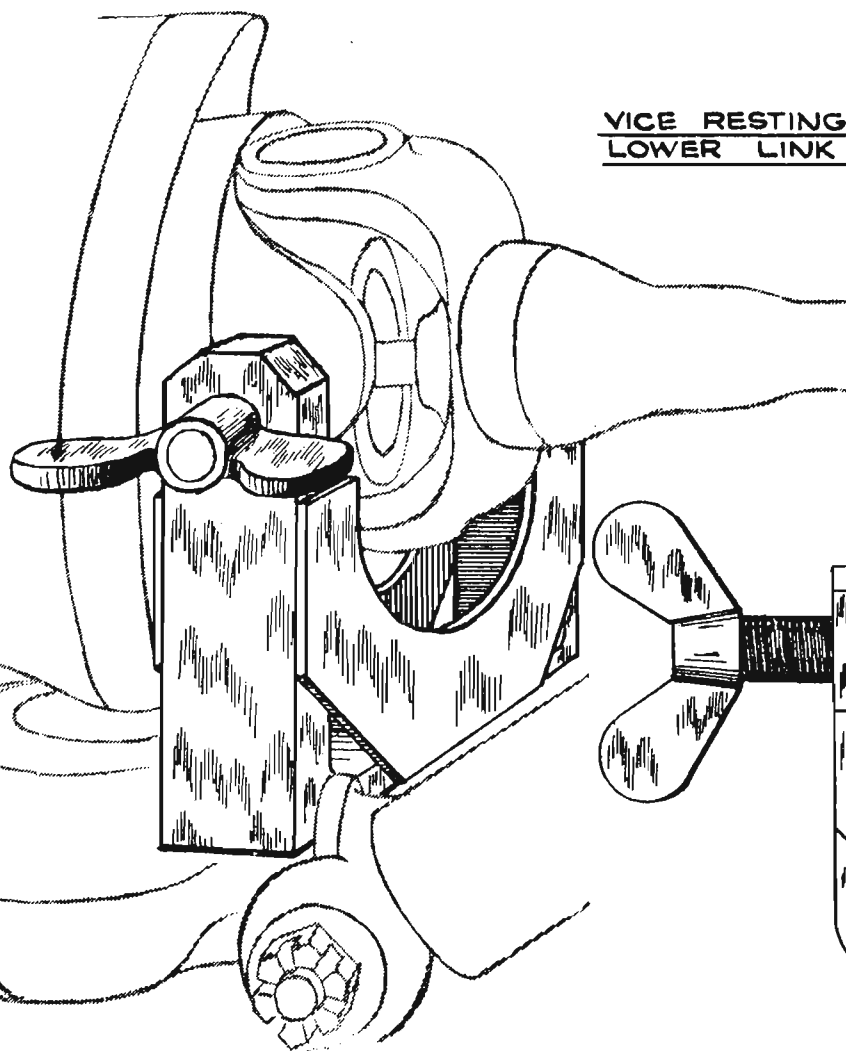

Fig. 2. - VICE 1830.T.
Fig. 2 Shows vice 1830.T. the dimensions are not given, but once the principle is seen they can be left to the individual constructor. There are more basic alternatives but avoid any that may damage the shaft or coupling.
- 6) Prevent drive shaft from turning with vice 1830.T. See Fig. 2.